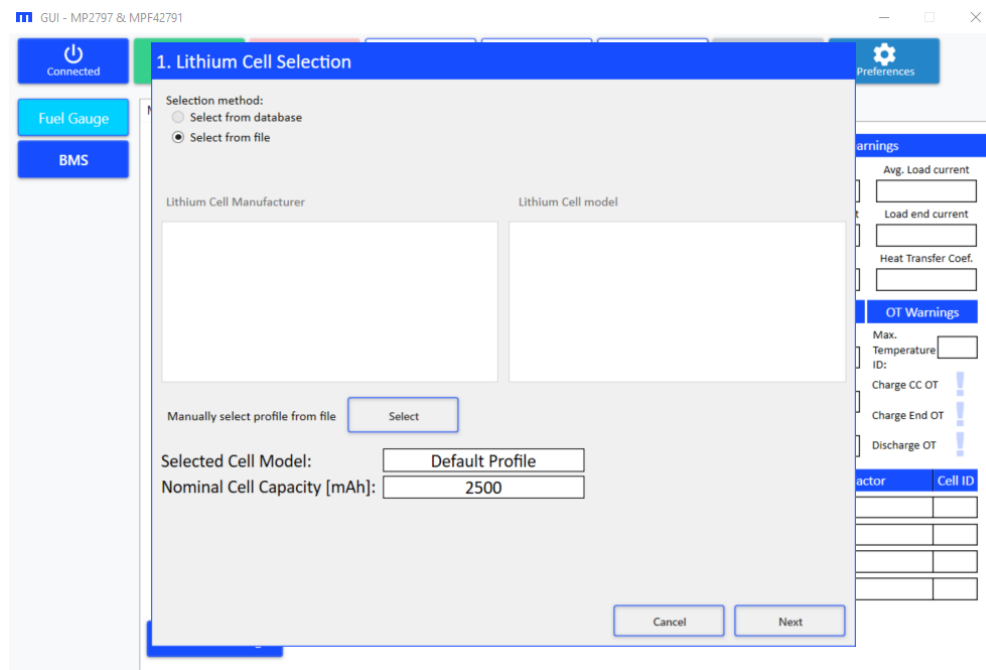

Figure 33: Configuration Wizard 1 – Cell Profile Selection
3. The wizard to select the cell profile should open. To use a new profile, click “Select” and use the file explorer to select a valid “.xml” file containing a cell profile (see Figure 33).
4. Click “Next” after making the cell selection. The Battery Pack Configuration window should open (see Figure 33).